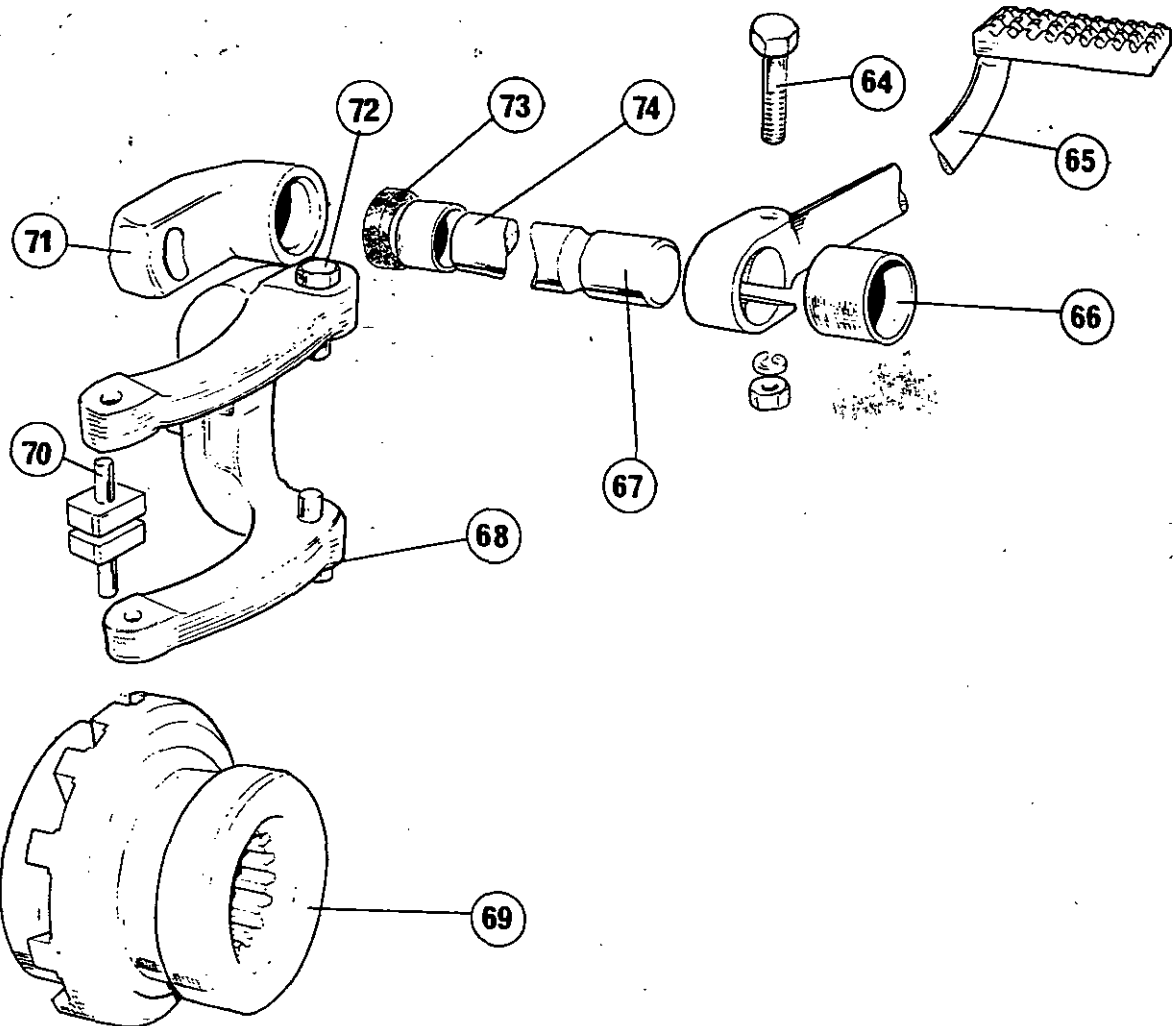

FIG. 9
2. Fig. 9. Remove the bolt (64), nut and spring washer securing the arm (65) to the actuating shaft (67).
7. Fig. 9. Secure the arm (65) to the shaft (67) with the bolt (64), spring washer and nut.